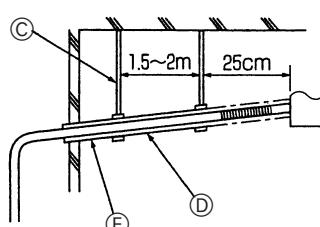

Fig. 8-2
(4) Ensure that the drain piping down-gradient is greater than 1/100. (Fig. 8-2)